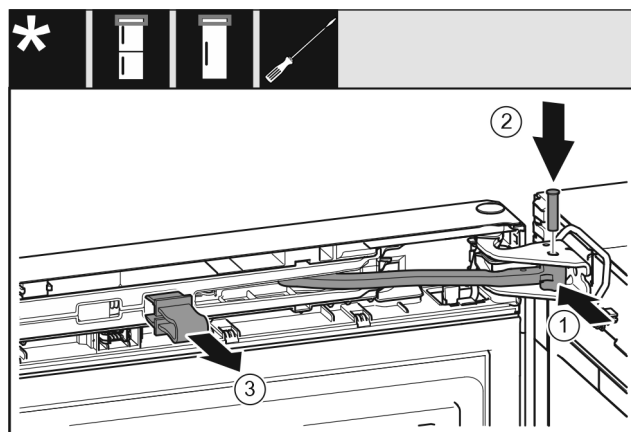

Fig. 23
- ▶ Turn the joint *Fig. 23 (1)* in the swap bearing block.
- ▶ Insert the pin *Fig. 23 (2)* into the swap bearing block and joint. In the process, make sure that the latching cam is correctly positioned in the groove.
- ▶ Remove the locking device *Fig. 23 (3)*.